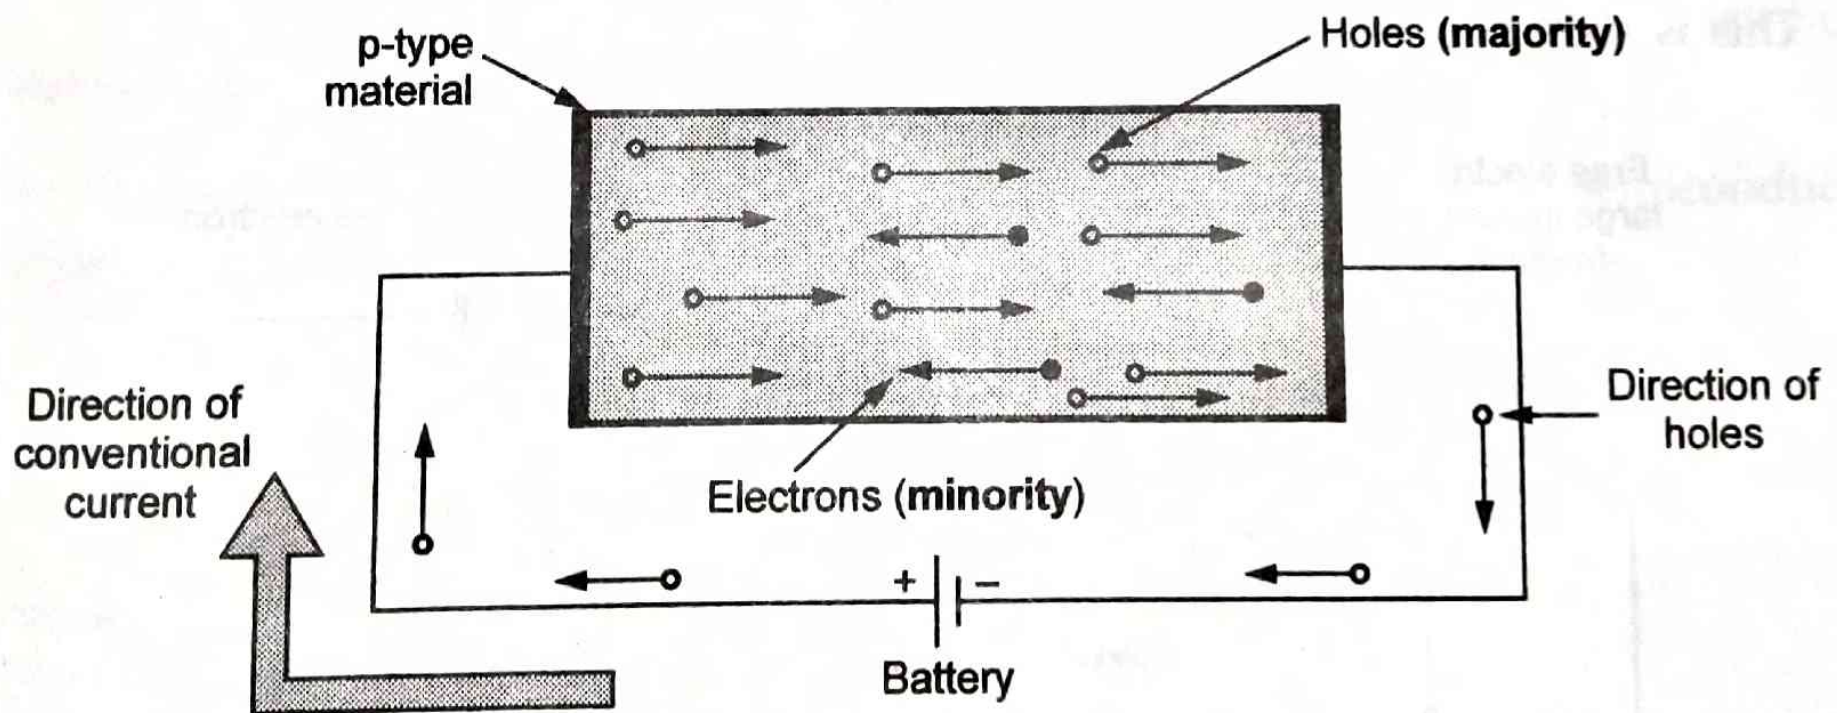

Fig. 1.5.4 Conduction in p-type material
- This is shown in the Fig. 1.5.4.